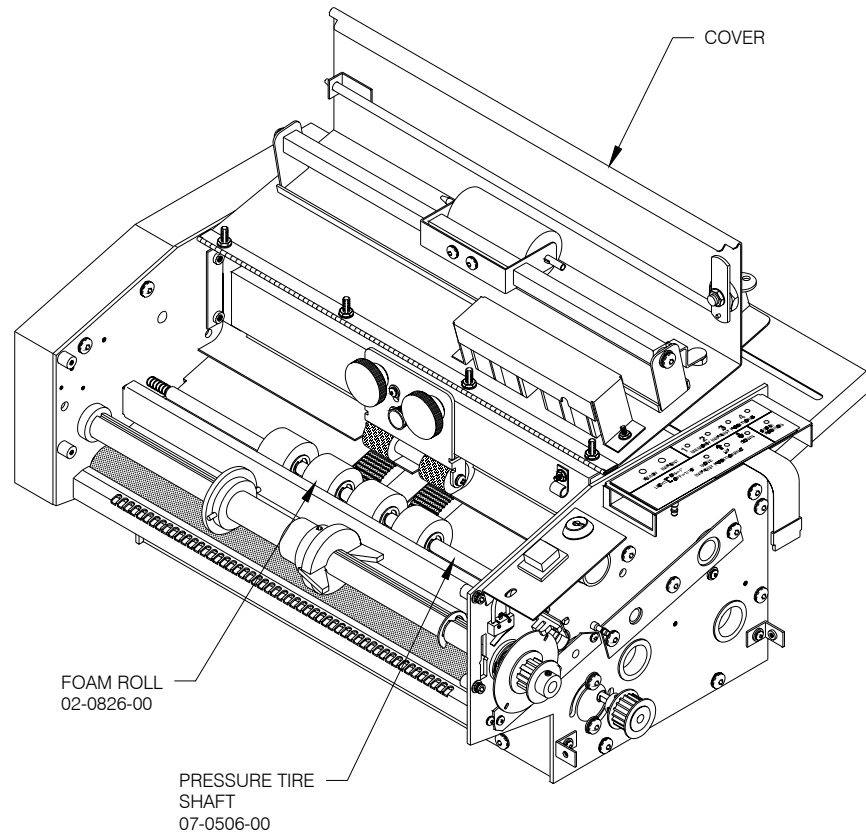

Figure 7.12 -- Foam Rolls & Pressure Tire Shaft
1. Open the COVER. (Refer to **Figure 7.12.**)
4. Slide the FOAM ROLLS off the PRESSURE TIRE SHAFT. (Refer to **Figure 7.12.**)